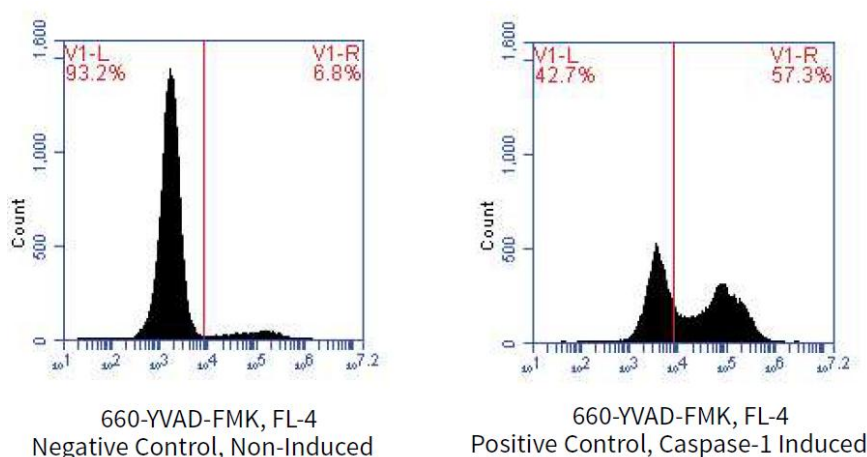

FIGURE 2: SINGLE COLOR ANALYSIS VIA FLOW CYTOMETRY
- (1) Resuspend cells in 300  $\mu$ L 1 x Cellular Wash Buffer (Section 10) and place on ice.
- (2) Run the unstained control. Generate a FSC vs SSC dot or density plot and gate on the population of interest. Adjust the voltages, if necessary, so that the cell population is easily distinguished.
- (3) For single-color analyses, use a 633 nm (peak emission) helium-neon ion laser or comparable >640 nm laser illumination source. Measure FLICA 660 emission on the FL-4 channel or with emission filters compatible with light emission between 680-690 nm.
- (4) Run single-color controls. Generate a histogram with the log FL-4 on the x-axis versus the number of cells on the y-axis. Caspase-negative (FLICA 660-) cells will fall within the lower log fluorescence output decades of the FL-4 x-axis; caspase-positive (FLICA 660+) cells will appear as a shoulder or as a separate peak on the right side of the negative peak histogram (Figure 2). Adjust the voltage on FL-4, if necessary, to ensure fluorescence is on scale and caspase positive and negative populations are distinguished.
- (5) For bi-color analyses, run each single-color control. Adjust compensation to remove spectral overlap from interfering FL channels. Depending on the instrument and the software used, compensation might be set within the instrument hardware before samples are run or within the software after data collection. When the data have been correctly compensated, the median fluorescence intensity (MFI) values in non-primary detectors of any given single-stained control sample should be the same as an unstained control sample (e.g., a FLICA 660 stained sample being read in FL-4 should have the same MFI in FL-3 as an unstained sample).
- (6) Run the experimental samples and analyze.